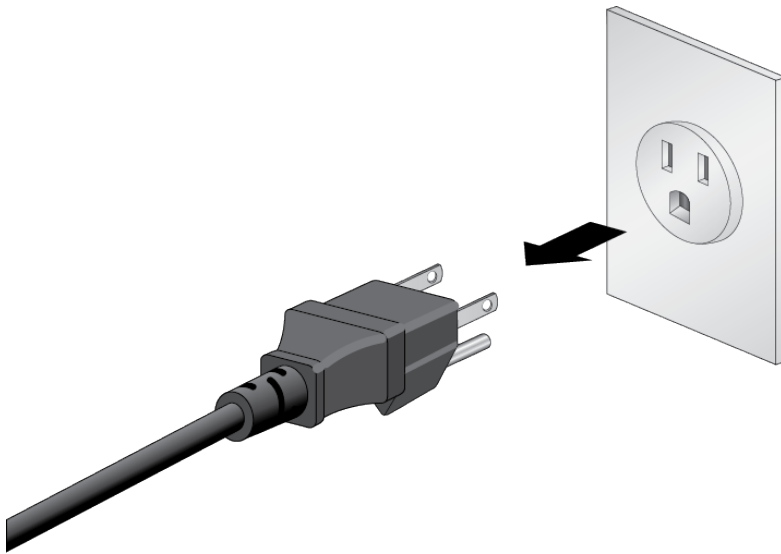

Figure 143. Disconnecting the AC Power Cord from the Power Source
1. Disconnect the AC power cord for the power supply from the AC power source. Refer to Figure 143.